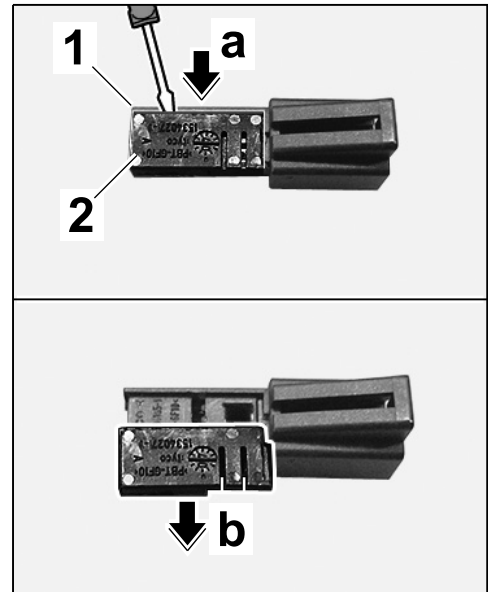

Figure 10
- 2.3.2 Insert a screwdriver in between the plug socket ⇒ *Figure 10-1-* and secondary lock ⇒ *Figure 10-2-* (⇒ *Figure 10-arrow a-*) and release secondary lock ⇒ *Figure 10-arrow b-*.